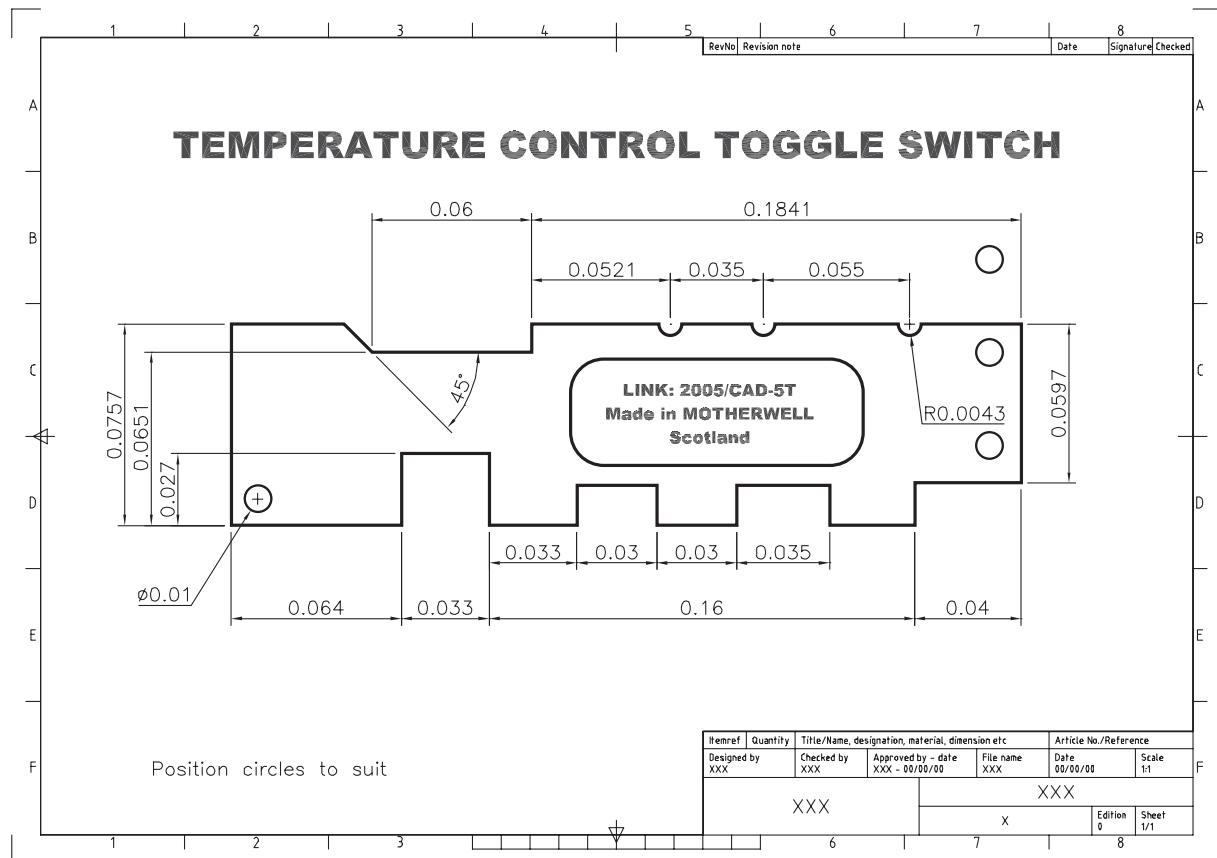

Figure 26.3 A small-scale drawing on A3 paper.
- a) refer to Figure 26.3 and draw the toggle switch (full size) using the sizes given